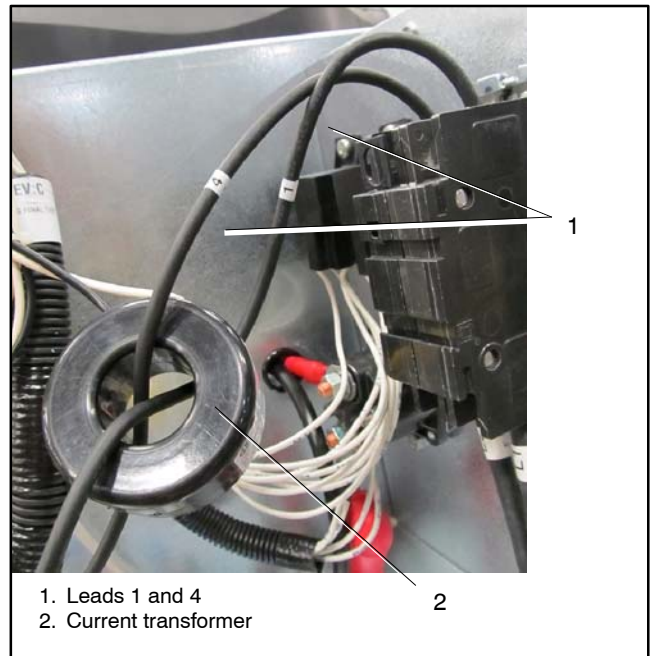

Figure 6-3 Current Transformer
Note: For **10RESV** and **12RESV** models, leads 1 and 4 must thread through the current transformer (CT) from opposing directions. Before disconnecting the leads, take note of how the wires cross through the current transformer for reference when reconnecting the leads. See Figure 6-3.